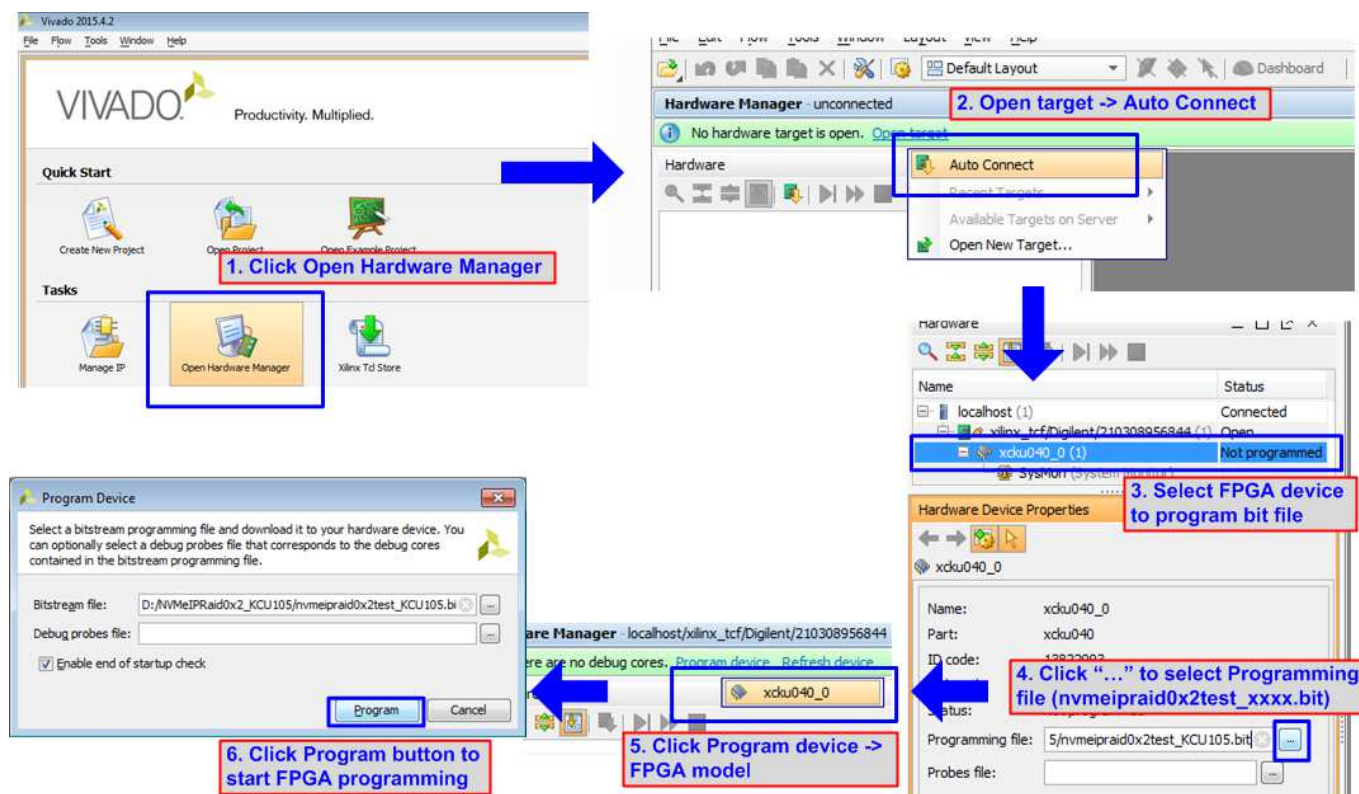

Figure 3-1 Programming steps by using Vivado
- 2) For KCU105 board, use Vivado tool to program bit file by the following steps, as shown in Figure 3-1.